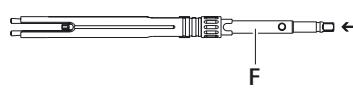

Fig. 3
- Insert screwdriver F into clamping sleeve 2 from the rear end. Ensure that the lateral lugs slide into the grooves right to the bottom, see Fig. 3.